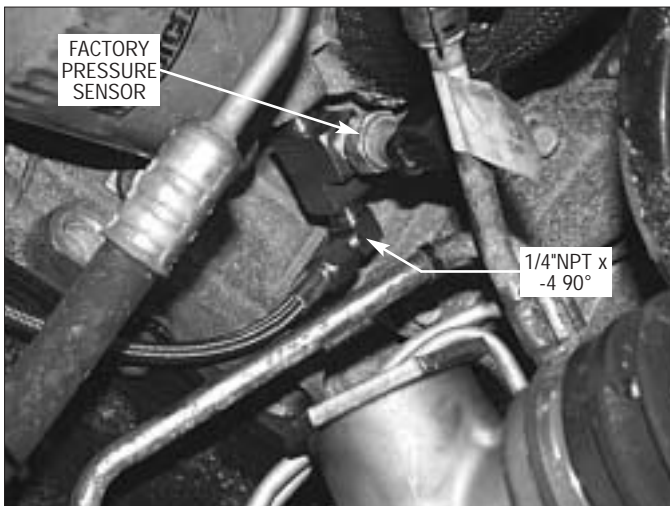

Fig. 2-a
- C. Locate the supplied 1/4"NPT street TEE fitting. Install the TEE in the same location as the factory sending unit with the 1/4" x -4 x 90° installed in the TEE at the location noted. (See Fig. 2-a.)
- D. Attach the stainless steel -4 hose to the -4 fitting installed in the street TEE. (See Fig. 2-a.)
- F. Reinstall the factory sensor in the branch of the TEE as shown. (See Fig. 2-a.)